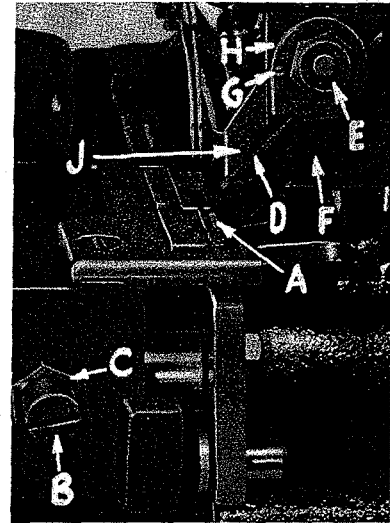

Fig. 12
Replace lower knife holder assembly. Lower knife (A, Fig. 12) should be set with cutting edge flush with throat plate surface. Adjustments are made with hexagonal head screw which holds lower knife. Lower knife is spring pressed against upper knife, so no lateral adjustment is necessary when width of trim is changed.
Replace upper knife assembly. Clamp upper knife (D, Fig. 12) in position, setting nut (E) to hold clamp (F) in its most clockwise position against upper knife. At bottom of its stroke, front cutting edge of upper knife should extend not less than $1/64$ inch below cutting edge of lower knife. The chain guard (J) should be set down against the upper knife and slightly back from the cutting edge.